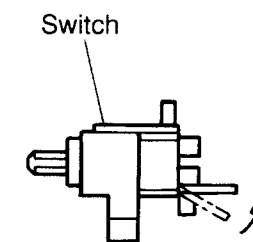

Figure 8
- (2) Prepare the terminals of the switch of the new solder as shown in Figure 8.
- (3) After that, insert the switch into the photo P.C. board, and solder the terminals.